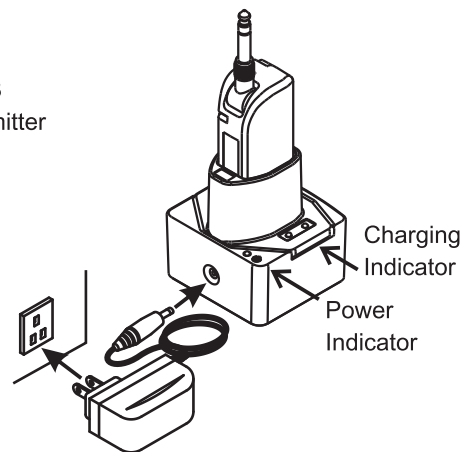

Fig. 37
- (C) Charging Status: The indicator light displays the charging status of the battery, Fig. 37.
- (1) Still Red: The battery is charging.
- (2) Still Green: The battery is fully charged.
- (3) Light is off: No transmitter is inserted.